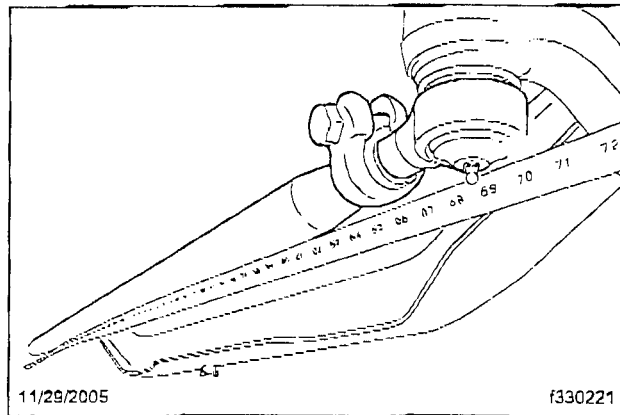

Fig. 3, Center-to-Center Distance Between Tie Rod End Grease Fittings
1. Measure and record the center-to-center distance between the tie rod end grease fittings. See Fig. 3.